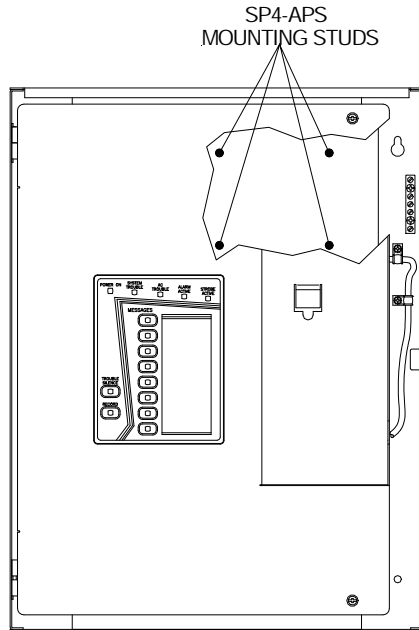
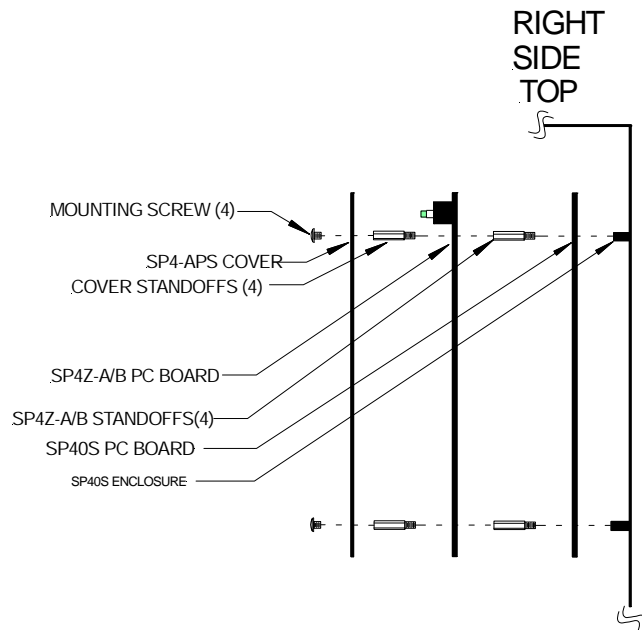

Figure 6:
Figure 7:
Figure 6 shows the mounting location of the SP4-APS Splitter to the printed circuit board of the SP40S panel. Figure 7 shows the correct mounting procedure.
4. Attach wiring in accordance with this section and Figure 7.